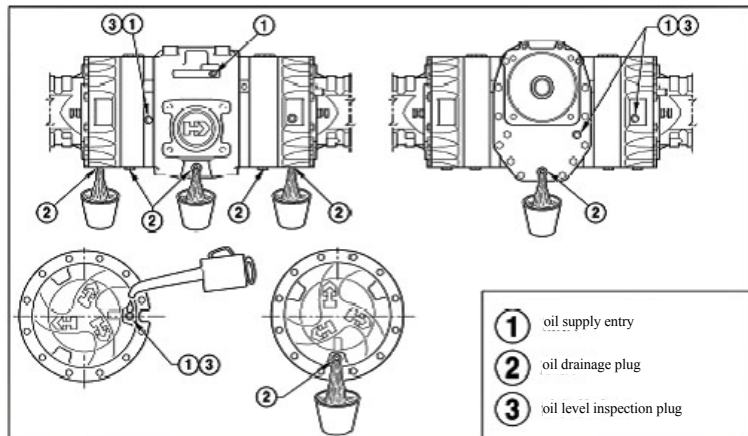

Figure 3-17
- (2) When more than three damping blocks on one side show cracks of 10 to 15 mm depth, it will be necessary to replace all the blocks on the side in question. The rigidity of the blocks of left damping is different from the stiffness of the right blocks, therefore the blocks cannot be replaced between sides.
3.4.3.4 Check the oil level of the axle of transmission (figure 3-17)
3.4.4.5 Replace the lubricant oil of the drive axle (figure 3-17)